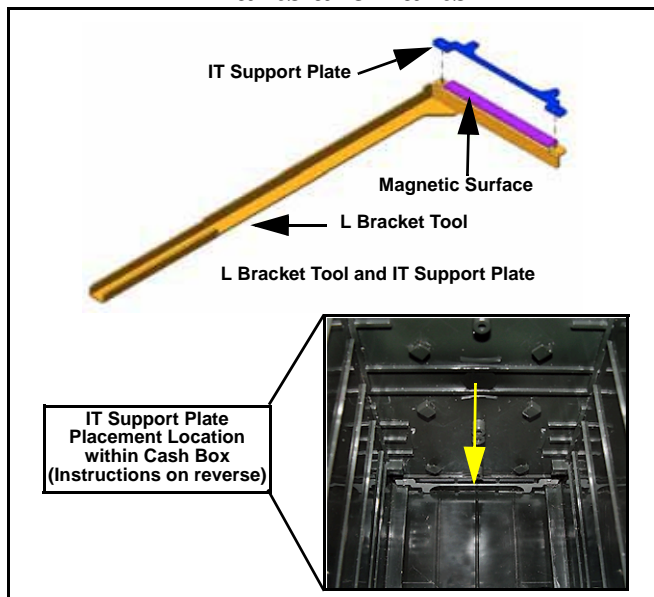

Figure 1: Place IT Support Plate on L Bracket Tool Magnetic Surface
1. Place the IT Support Bracket on the L Bracket Tool's magnetic surface (see **Figure 1**).